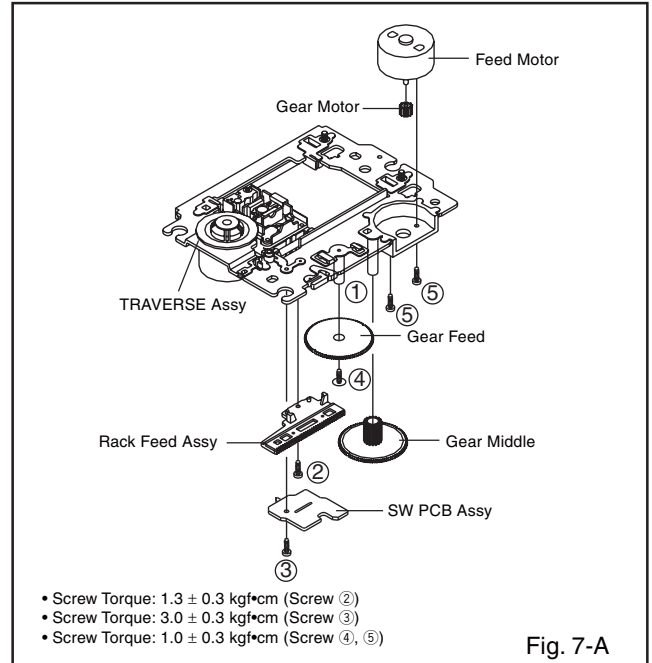

Fig. 7-A
1. When installing the Rack Feed Assy, push both ends to align the teeth as shown Fig. 7-B. Then install it.